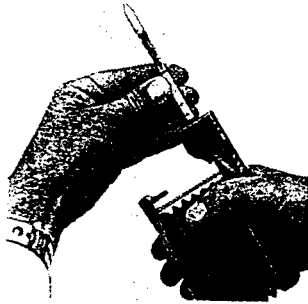

Fig. 5
3. Tightly insert the DRÄGER Tube in the pump head with the arrow pointing towards the pump (Fig. 5).